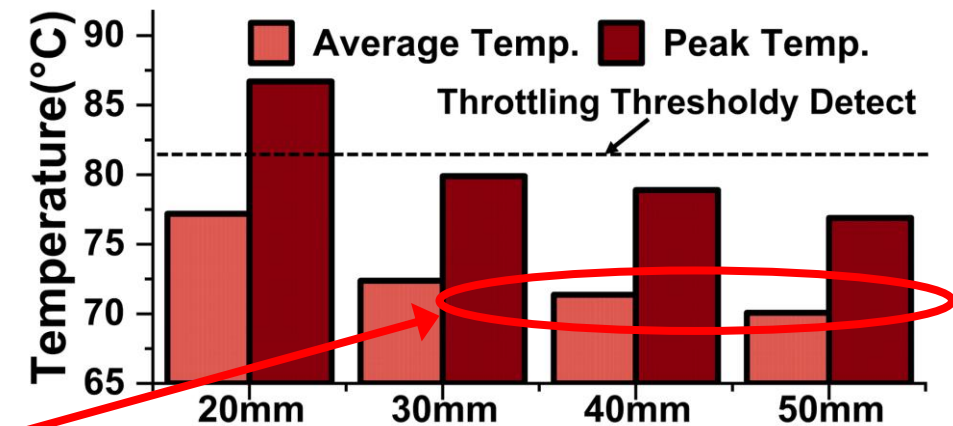

Fig. 1
- Fig. 1 shows the temperature as a function of spacing for RTX 2060S+Noah-2100A.